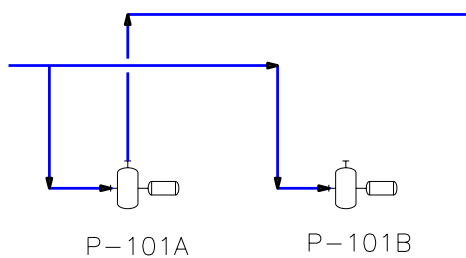

Figure 2-54 Line connecting the vertical nozzle of the pump
6. Specify the start point on the vertical nozzle of the pump tagged **P-101A**, and then create a line, as shown in Figure 2-54.